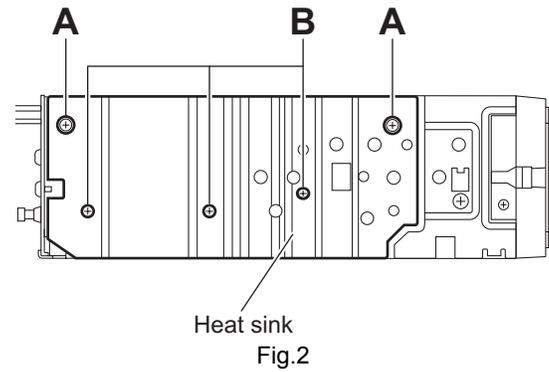

Fig.2
3.1.2 Removing the heat sink (See Fig.2)
(See Fig.2)
(See Figs.2 to 4)
- (1) From the front side of the CD mechanism assembly, remove the two screws **C** attaching the right and left stoppers. (See Fig.2.)